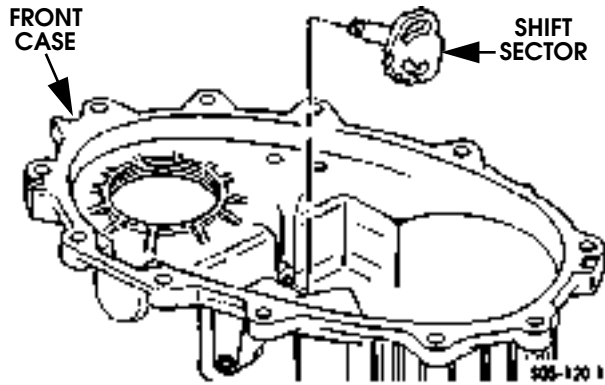

Figure 5-133: Shift Sector Installation
2. Lubricate shift sector shaft and install sector in case (Figure 5-133).